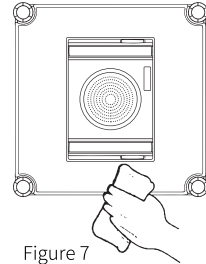

Figure 7
- After the rag is installed, dry the water stains. (Figure 7)